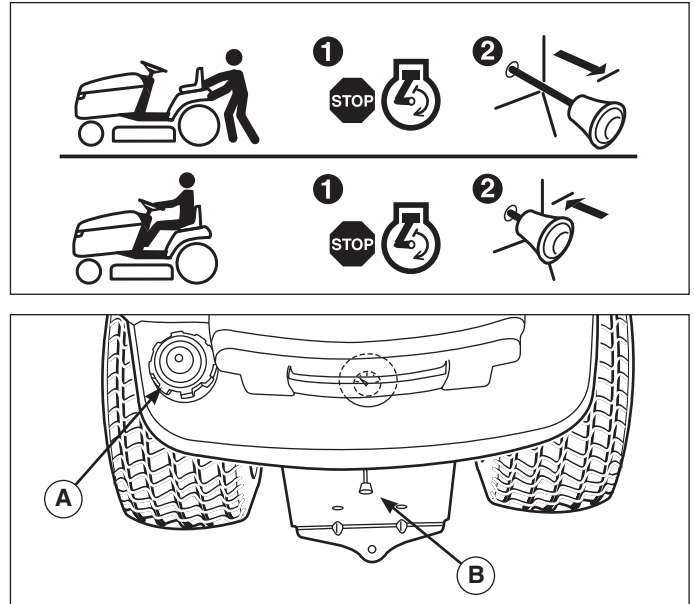

Figure 7
2. Pull the transmission release (**B**, Figure 7) back approximately 2-1/2" (6 cm) to lock into released position.